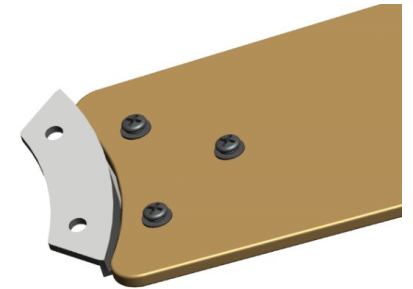

Fig 3.2
- 3.2 Fig 3.2 is the schematic diagram of the installed fan blade bracket. Repeat these steps for the remaining blades. Make sure all the screws are firmly tightened.